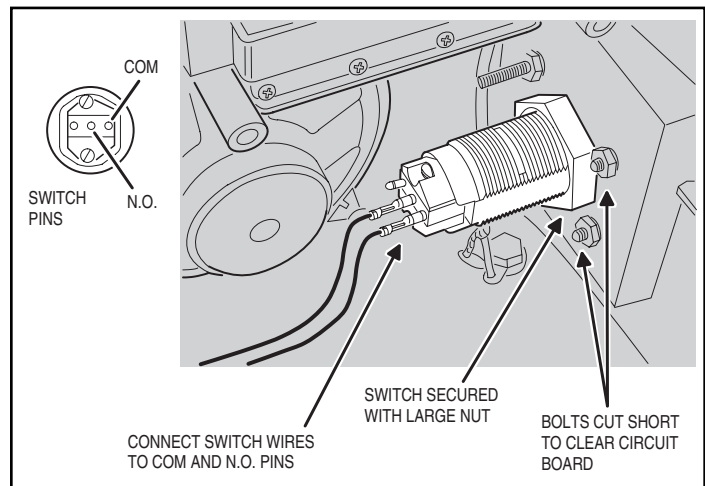

Figure 15. Keyswitch Wire Connections
4. Plug the two keyswitch snap-on wire leads (supplied with the switch) onto the keyswitch **COM** and **N.O.** pins (see Figure 15).